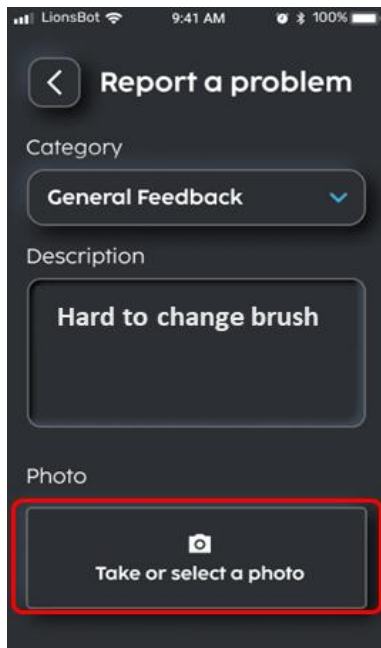

FIGURE 7-24
4. Take or select a photo of the problem (Optional) (Fig. 7-24 and 7-25).